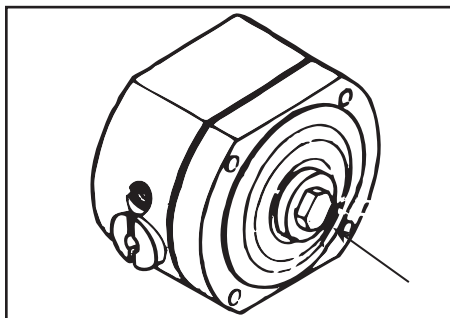

Figure 24
- Remove the nuts on both sides of the center rod (See Figure 24).